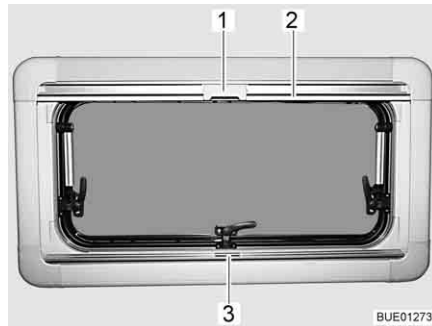

Fig. 84 Hinged window
Closing: ■ Grip the Roman shade in the centre of the holding bar (Fig. 84,3), pull it from the bottom to the top and then release it at the desired height. The Roman shade will stay at this height.
Closing: ■ Pull the insect screen down using the holding bar (Fig. 84,2), until it touches the holding bar of the Roman shade (Fig. 84,3).
■ Clip the catch (Fig. 84,1) on the insect screen into the handle of the Roman shade.
Opening: ■ Push the catch (Fig. 84,1) on the insect screen inwards.
■ Move the insect screen back slowly on the holding bar (Fig. 84,2).